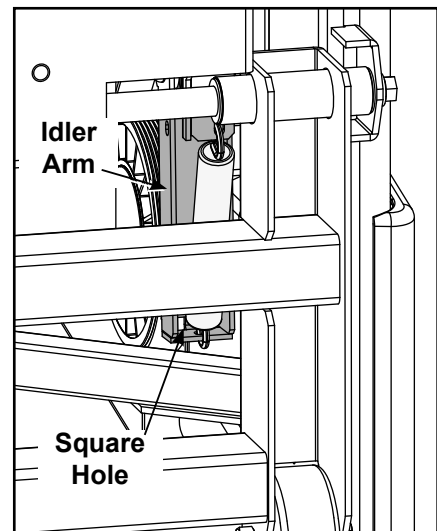

Figure 12
- A. Release drive belt tension by placing a Phillips screwdriver into the square hole located in the bottom of the idler pulley assembly. See Figure 12.
B. Release drive belt tension by placing the Phillips screwdriver into the square hole located in the bottom of the idler pulley assembly. See Figure 12.